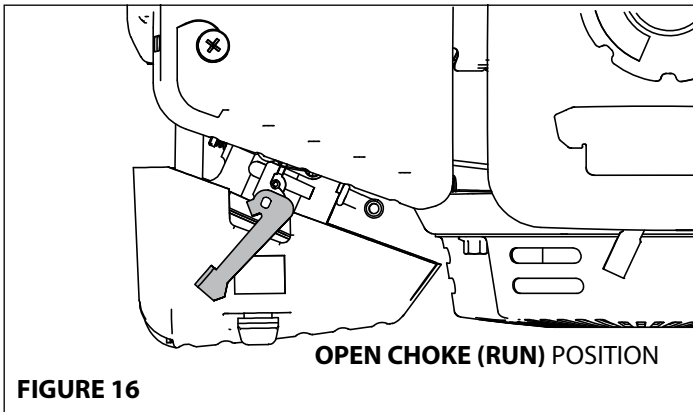

FIGURE 16
7. After starting engine slowly move the choke lever to **RUN** position. **SEE FIGURE 16.**